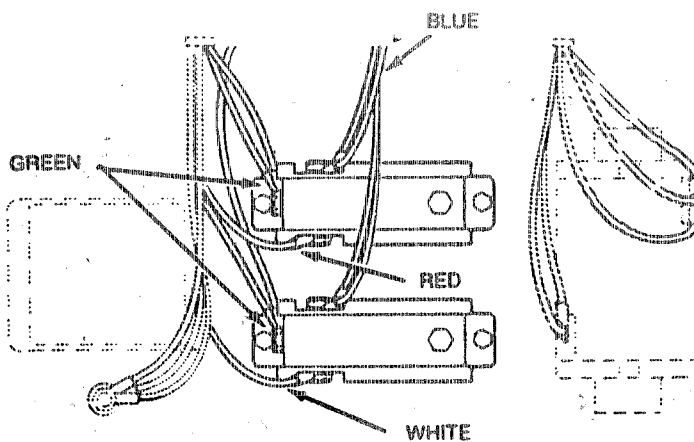

FIGURE 2. BEFORE
5. Disconnect the single wire (white on one receptacle and red on the other) and the two blue wires on the other receptacle. Do not disconnect the green (ground) wires (Figure 2).